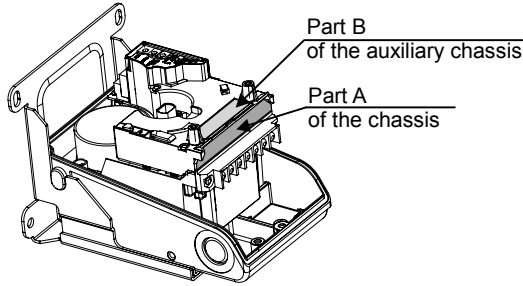

Figure 7. Parts to be removed for mounting the auxiliary switch
- Assembling the switch unit (See Figs. 7 and 8.)